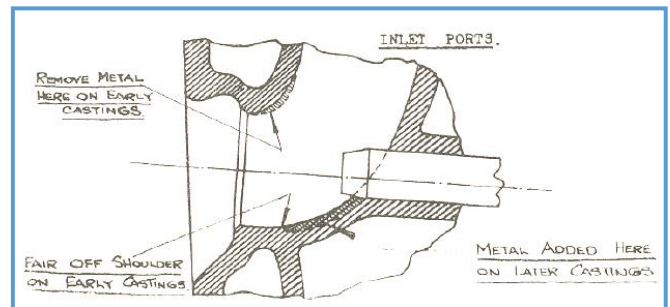

Figure 2. Re-profiling inlet ports
- b) **Inlet Ports** – As with Exhaust Ports, early castings have more metal than is desirable under the Valve Seating. On later castings, metal has been left on the opposite wall, with improved results. This cannot be done on the early castings, but the rough edge may be faired off to reduce the buffer effect under the shoulder (Fig. 2).